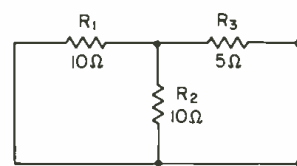

Figure 2
Step 3. Find the resistance looking back in with the voltage source $E_1 = 0$. (remember, a voltage source is defined as a constant voltage with an internal resistance of zero ohms.) The circuit becomes as shown in FIGURE 2.